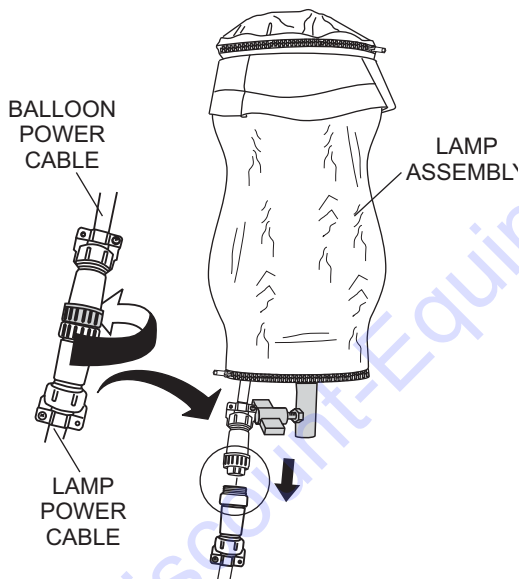

Figure 13. Disconnecting Power Cables
1. Disconnect balloon power cable (Figure 13) from the lamp power cable. Place lamp power cable in a safe place where it will not get damage or lost..